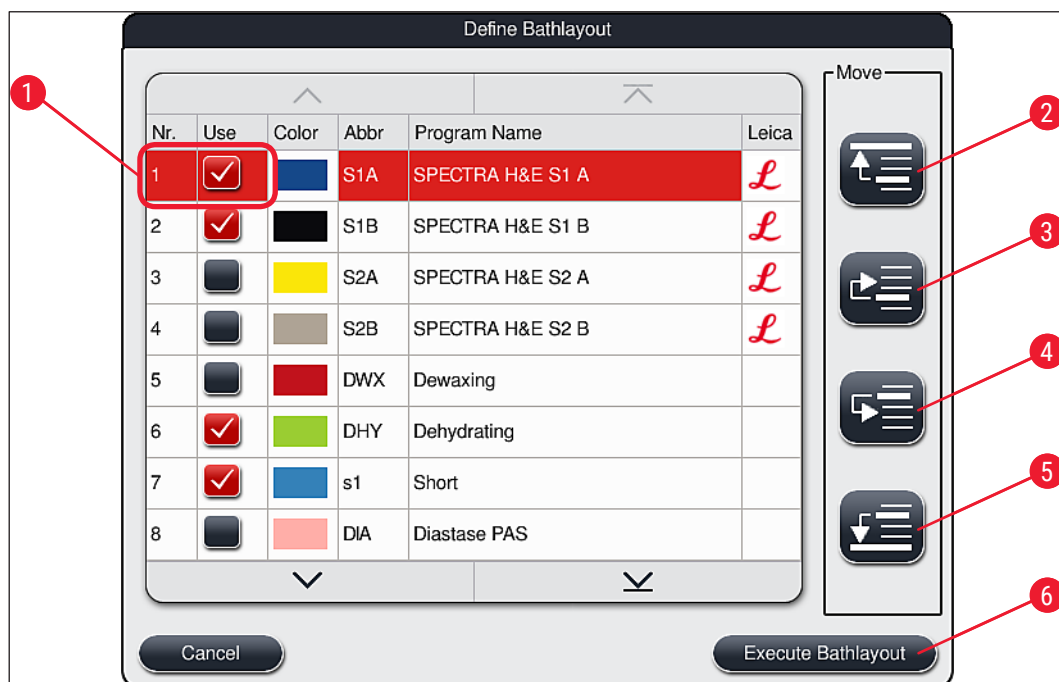

Fig. 49
- Press the **Continue** button (→ "Fig. 51-4") to proceed or **Cancel** button (→ "Fig. 51-5") to return to the program selection (→ "Fig. 49").